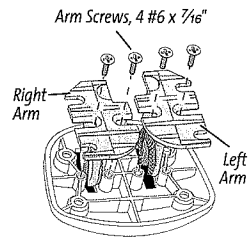

Figure 3
1. Insert the mount arms through the base (Figure 3).